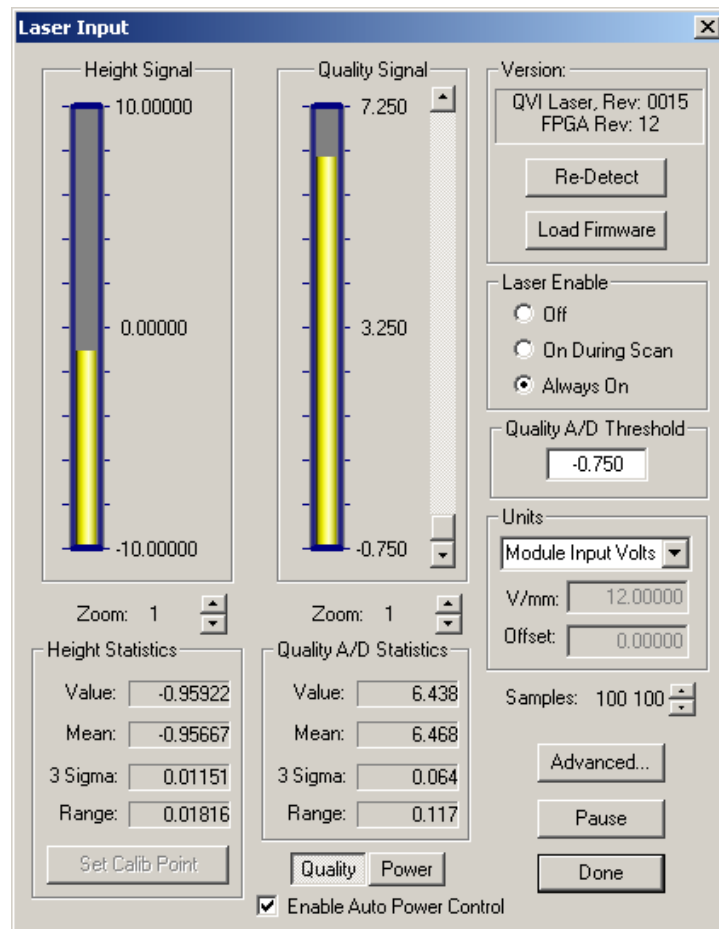

Figure B-5 Laser Input Window (Laser Diagnostics)
11. Click **Diagnostics** to display the Laser Input (laser diagnostics) window (see Figure B-5).
32. Look at the **Height Signal** and **Quality Signal** scales in the Dual Signal Laser (laser diagnostics) window (see Figure B-5 on page 269). When the optics are focused on the surface of the gage block, the height signal should be 0 and the quality signal should be close to 10. If the height signal is 0, go to Step 33. Otherwise, continue with the next step to make the required adjustment.